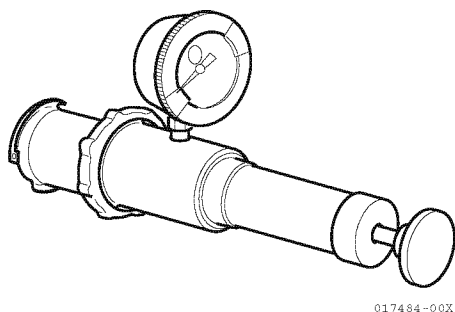

Figure 7-5
2. Pump until the cap opens (**Figure 7-5**).